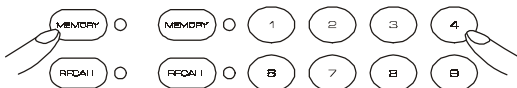

Fig.12 Fig.13
- b. Press MEMORY BUTTON (3) to set a CUE POINT in memory. MEMORY LED will light (figure 12).